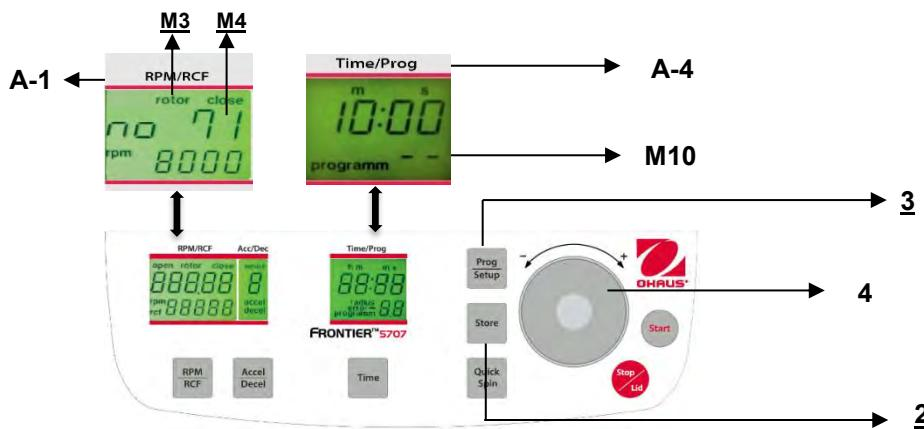

Figure. 23
To recall stored programs press the key "Prog/Setup" (3) (refer to figure 23) while the lid is already closed. Inside the display "Time/Prog" (A-4), "programm --"(M10) appears. The desired program number can be pre-selected with the adjusting dial (4).
To leave the program mode just press the key "Prog/Setup" (3) (refer to figure 23). Then inside the display "Time/Prog" (A-4) the word "programm" (M10) appears.